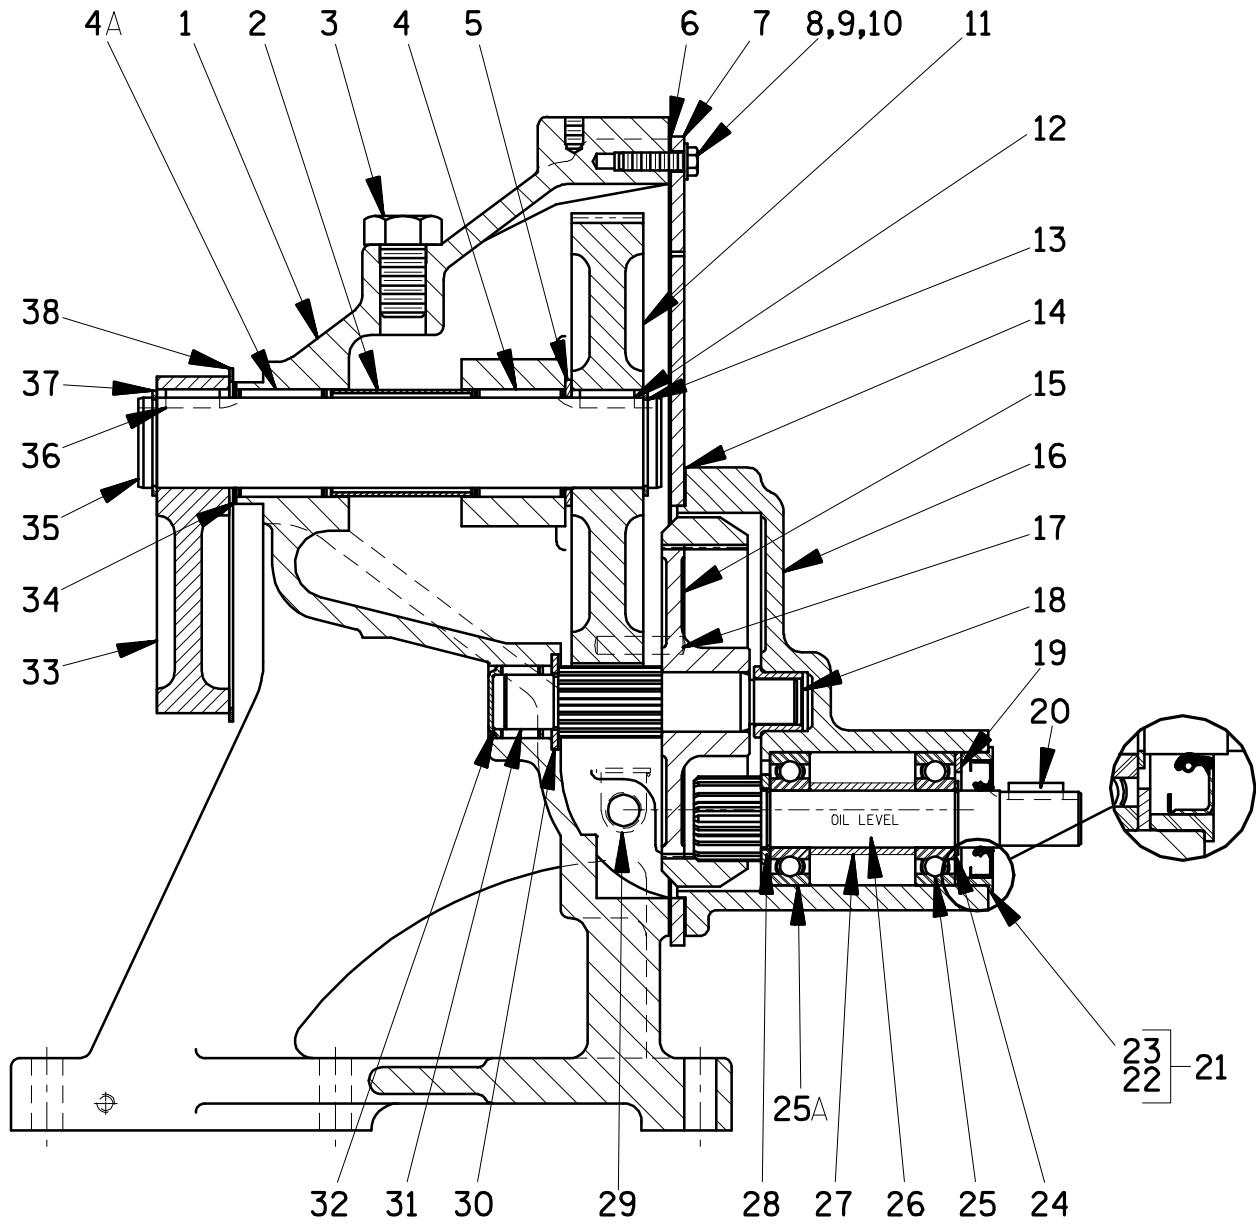

Figure 4. 8981 Gearbox Assembly
Removing the snap ring (6) and slide the plunger rod assembly (27) off the eccentric cam (33, Figure 4).
Disengage the hardware (22 and 23) and remove the coupling guard (9). Loosen the attaching hardware, separate the coupling halves (11 and 12) and remove the spider (13). Remove the gearbox assembly, and slide the coupling half off the pinion drive shaft (26, Figure 4).
(Figure 4)